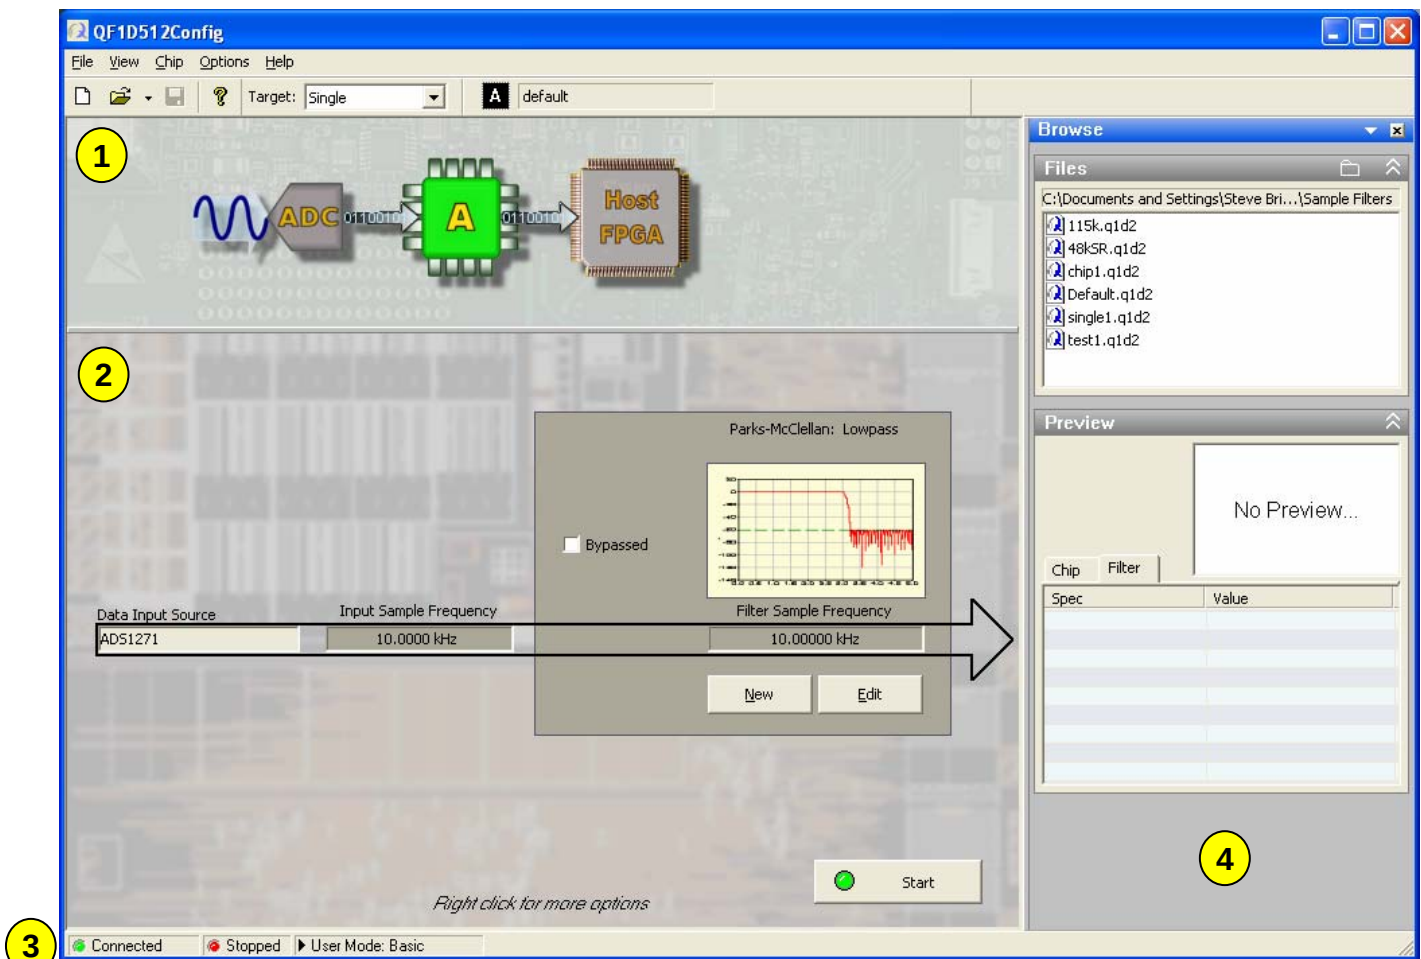

Figure 2
- Right click anywhere in the Chip Configuration Panel (Figure 2) and select "Save Configuration" or "Save Configuration As"